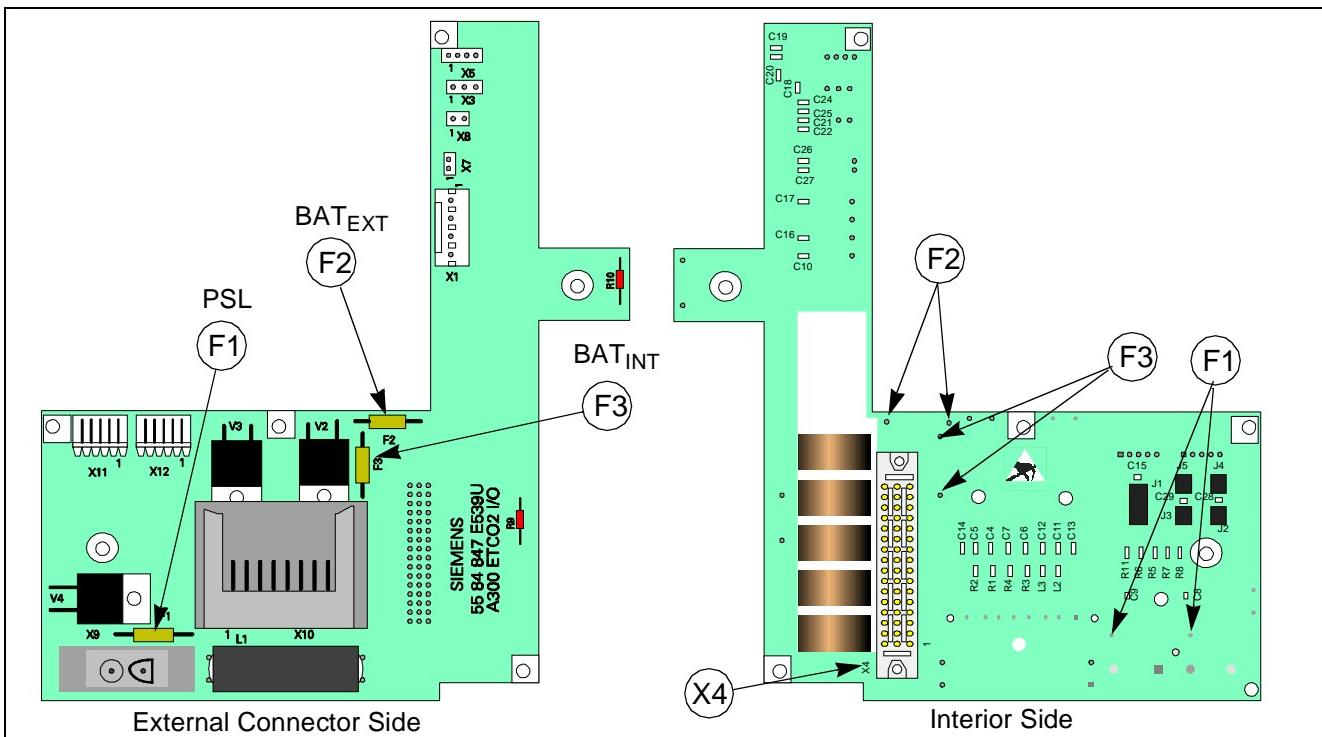

Figure 5-1 Connector I/O PCB
- 6) Check continuity of F1. See Figure 5-1 on page 76.
- 4) Check in-line fuse in power harness (if installed), and check for <5Ω between black wire battery terminal connector and pin 4 on connector X1. See Figure 5-1 on page 76.
- 6) Check continuity of F3. See Figure 5-1 on page 76.
- 3) Remove back cover, and with external power plugged into monitor check voltage between pins 1 and 2 of X1. See Figure 5-1 on page 76
- 5) Check continuity of F2. See Figure 5-1 on page 76.
- 2) Check continuity of F1, F2, and F3. See Figure 5-1 on page 76.
- 2) Remove battery/NBP compartment access door and unplug battery power cable connector from X1. See Figure 5-1 on page 76.
11) Check continuity of F2 (if external battery problem) or F3 (if main battery problem). See Figure 5-1 on page 76.